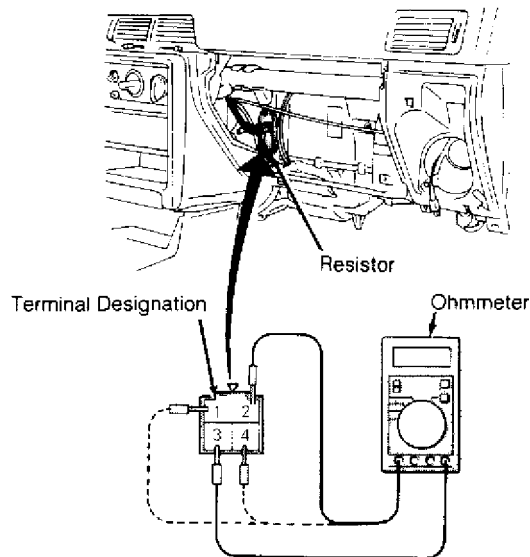

Fig. 1: Locating & Testing Blower Motor Resistor
Remove glove box. Disconnect connector from resistor. Using an ohmmeter, measure resistance between terminals specified in BLOWER MOTOR RESISTOR RESISTANCE TEST table. See Fig. 1.
1) Remove glove box. Resistor is mounted on dash and is visible with glove box removed. Remove 2 screws, and remove resistor. See Fig. 1.